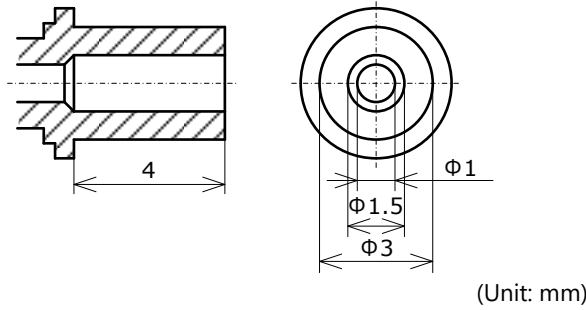

Figure 2. Recommended Nozzle Tip
1. Figure 2 shows the nozzle tip Nichia recommends.